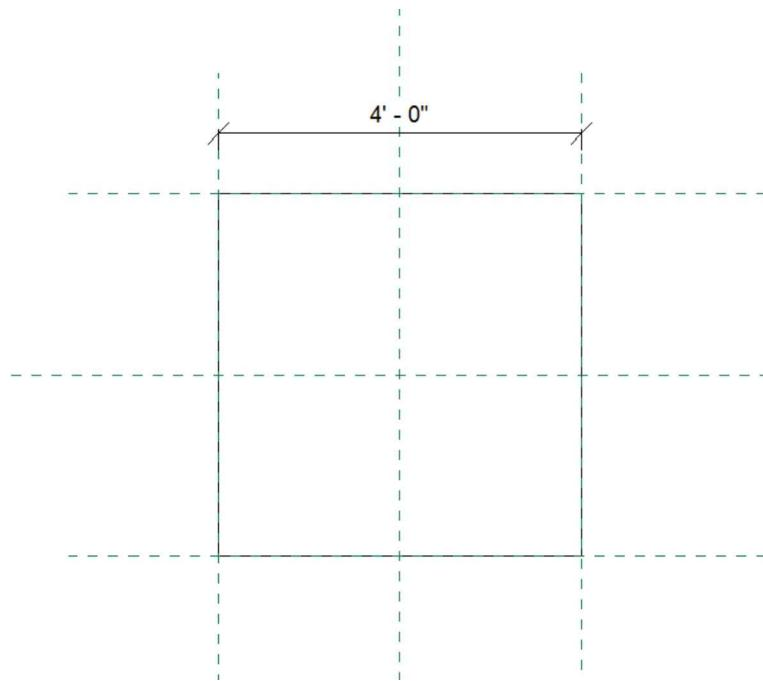

FIGURE 17-3.1 Dimension added to reference planes
3. Click the vertical left and right *Reference Planes*, and then click a third point to position the dimension line (Figure 17-3.1).